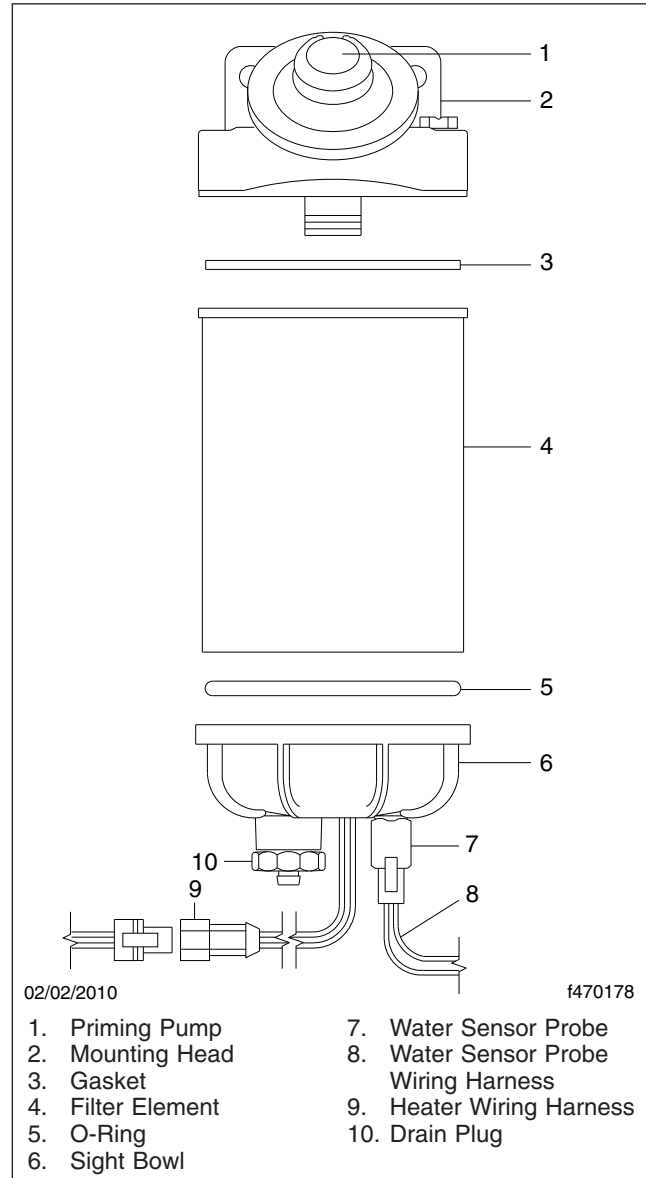

Fig. 6, Fuel/Water Separator Assembly
4. If equipped, remove the wiring harness connectors from the water sensor probe and the heater. See **Fig. 6**.